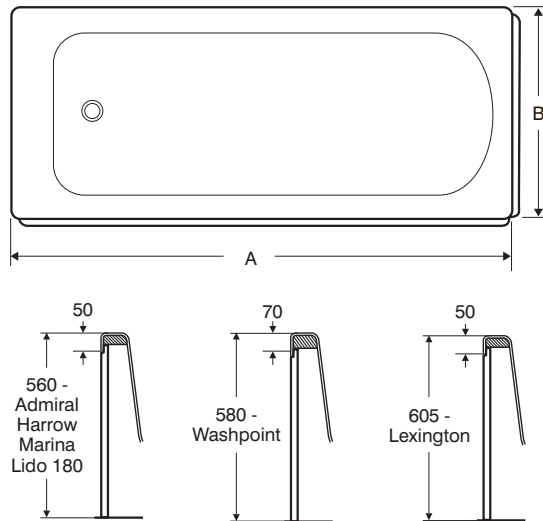

Figure 1
Fig. 1 illustrates baths fitted with rigid panels. Baths with wooden panel option - see Installation Instructions supplied.
3. Place bath in position and set to correct height, see Figure 1. Fix bath to wall. Fix bath to floor ensuring that all nuts are tight.
7. Panels can be reduced in height by cutting a strip from the bottom edge, for heights see Fig. 1. Timber floor battens are not supplied but are necessary to secure the panels. Screw battens to the floor.